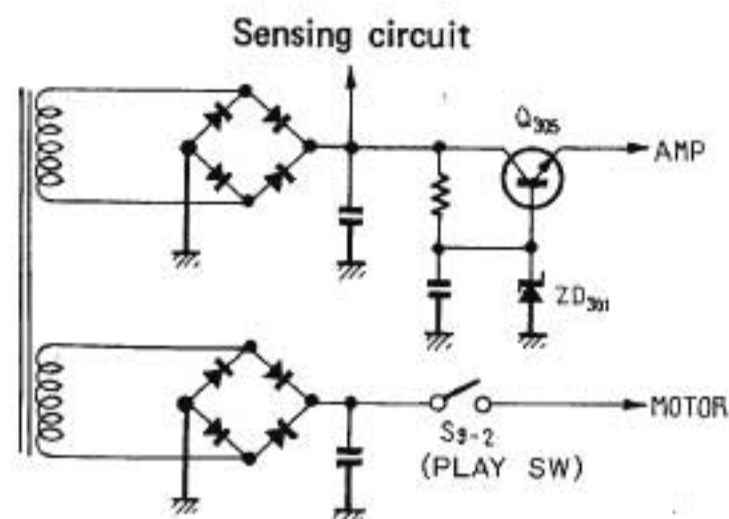

Fig. 7
6.3 POWER SUPPLY CIRCUIT (Fig. 7)